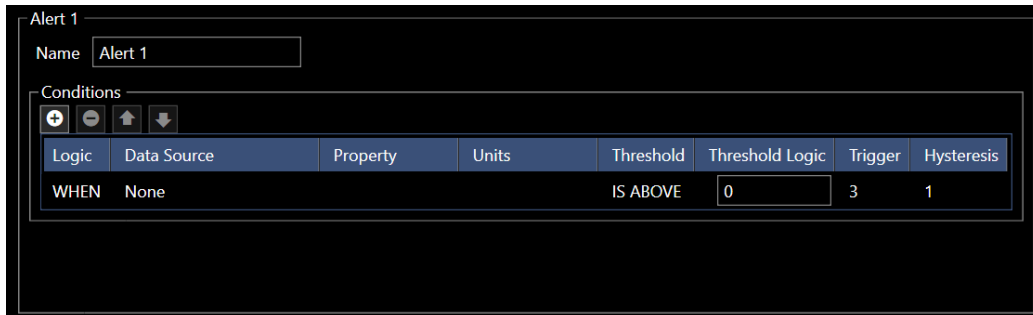

FIGURE 21-5 ALERT - CONDITIONS CONFIGURATION
3. Configure the alert conditions (see Figure 21-5)